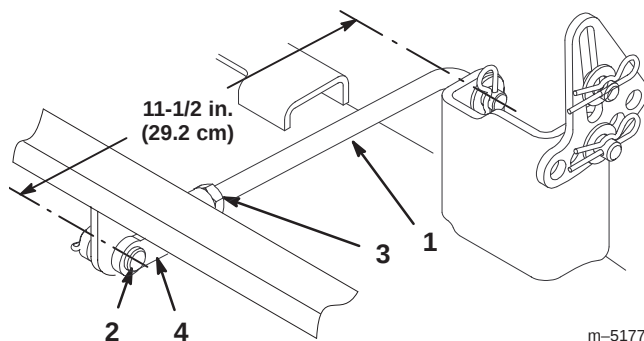

Figure 40
4. Measure the length of the rear trunion rod (Fig. 40). If the rod length is not 11-1/2 in. (29.2 cm), remove the clevis pin and cotter pin from the end of the rod (Fig. 40), loosen the jam nut, and turn the yoke until the 11-1/2 in. (29.3 cm) dimension is obtained. Then secure the yoke with the clevis pin and cotter pin. Repeat this procedure on the opposite side of the mower.
- When the front-to-rear blade slope is correct, tighten the jam nuts (Fig. 40 and 42).